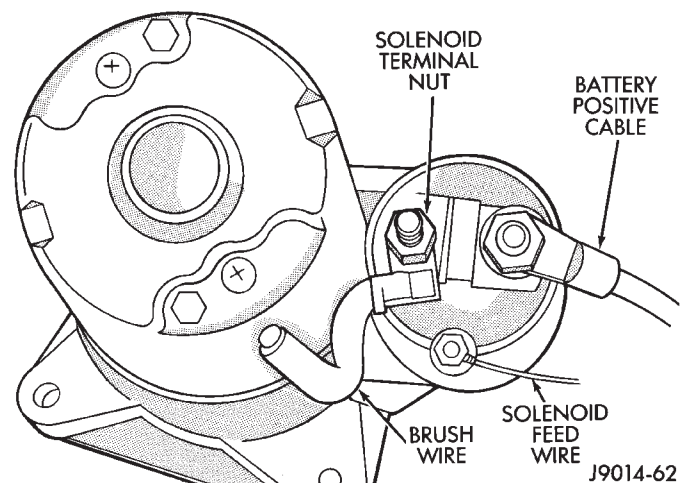

Fig. 15 Starter Solenoid Connection—Typical
(27) Verify that fuel pump/gauge sender unit wire connector (located near front of fuel tank) is firmly connected to harness connector.
(28) Inspect fuel lines at front of fuel tank for cracks or leaks.
(29) Inspect transmission torque convertor housing (automatic transmission) or clutch housing (manual transmission) for damage to timing ring on drive plate/flywheel.
(30) Verify that battery cable and solenoid feed wire connections to the starter solenoid are tight and clean. Inspect for chaffed wires or wires rubbing up against other components (Fig. 15).